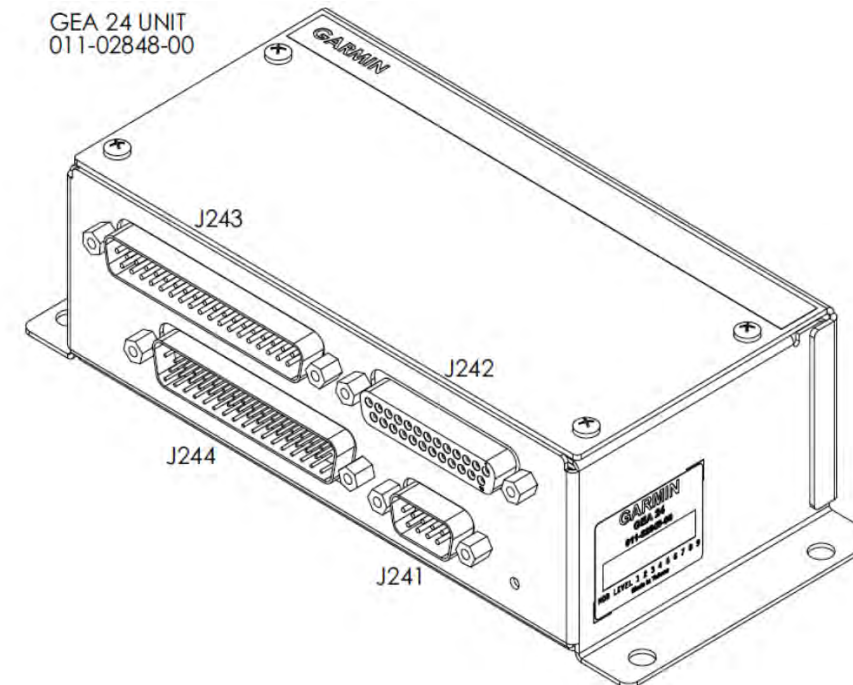

Figure 19 - GEA24
- Fuel pressure sensor circuit - Connect the three wires contained in GEA35A22-3 (pigtail that is a part of SC71001-001) to connector P243 (which connects to J243 on the GEA24, or SP71320-005) per Table 2. See Figure 19 to help locate the correct plug / jack.